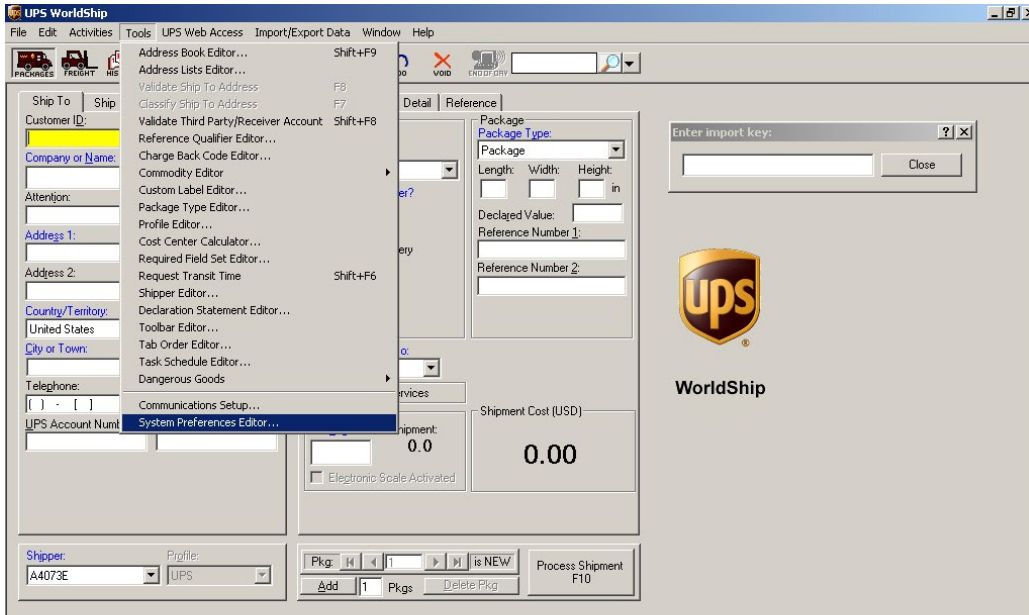

Figure 6
2. Under the Tools menu, select System Preferences Editor. (See Figure 6)